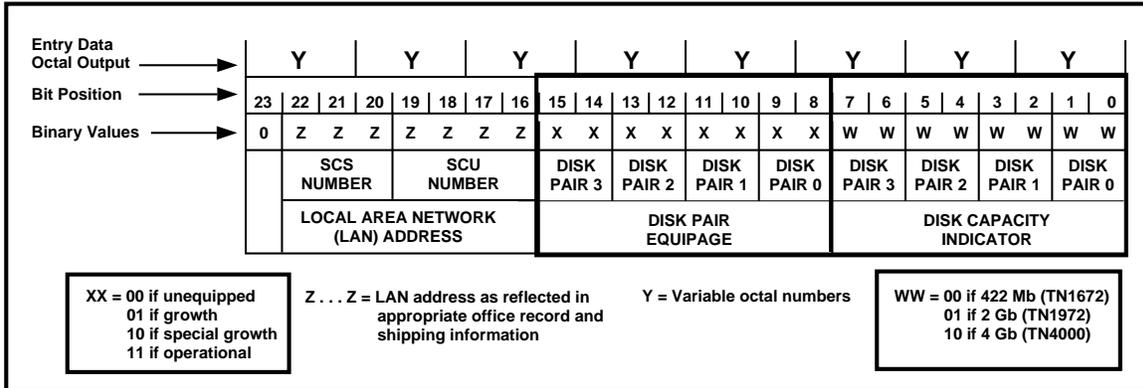

Figure 1. Word 26 in SCS Unit Type Translator
The above responses are followed by a complete printout of the Service Circuit System (SCS) unit type entry data. Use this printout (word 26) and Figure 1 to determine if the SCU data (disk pair equipage and capacity) was properly entered.
Response: The information shown in Figure 1 is displayed and printed. This printout will be used to determine the existing version number for each of the seven SCS system files.
**Note:** The words shown in Figure 1 are in **octal** format.